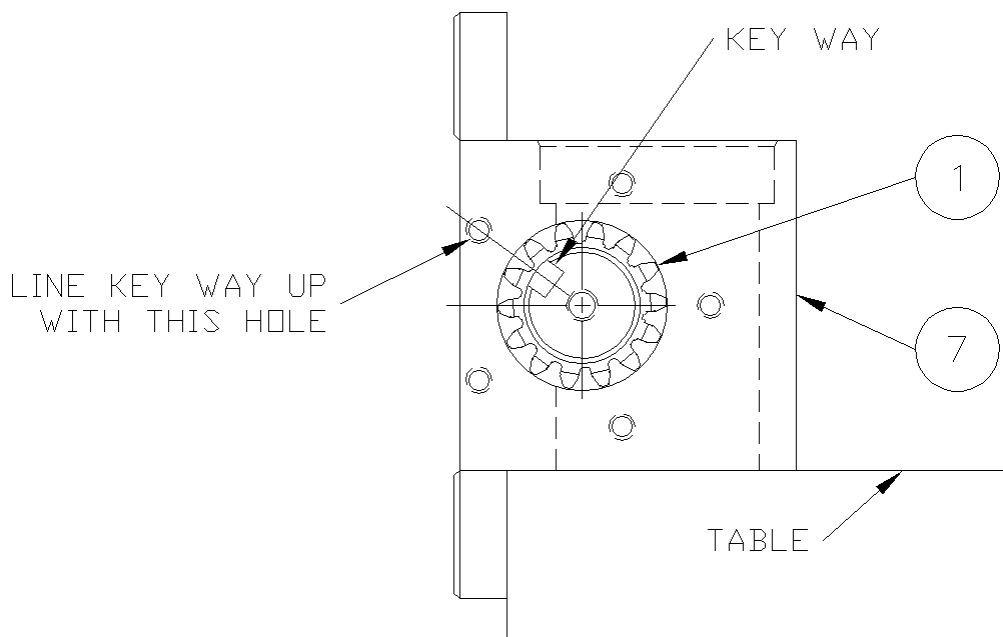

Figure C-4
4. Place the actuator body (7) ( Figure C-4 ) on the edge of the table, mounting flanges closest to the assembler with the counter-bores facing up. Insert the pinion shaft (1) through the bore on either side of the actuator body with the key ways facing back toward the mounting flanges and up away from the table with the center line of the key ways pointing toward the center of the tapped hole shown in Figure C-4. Center the pinion in the actuator body.